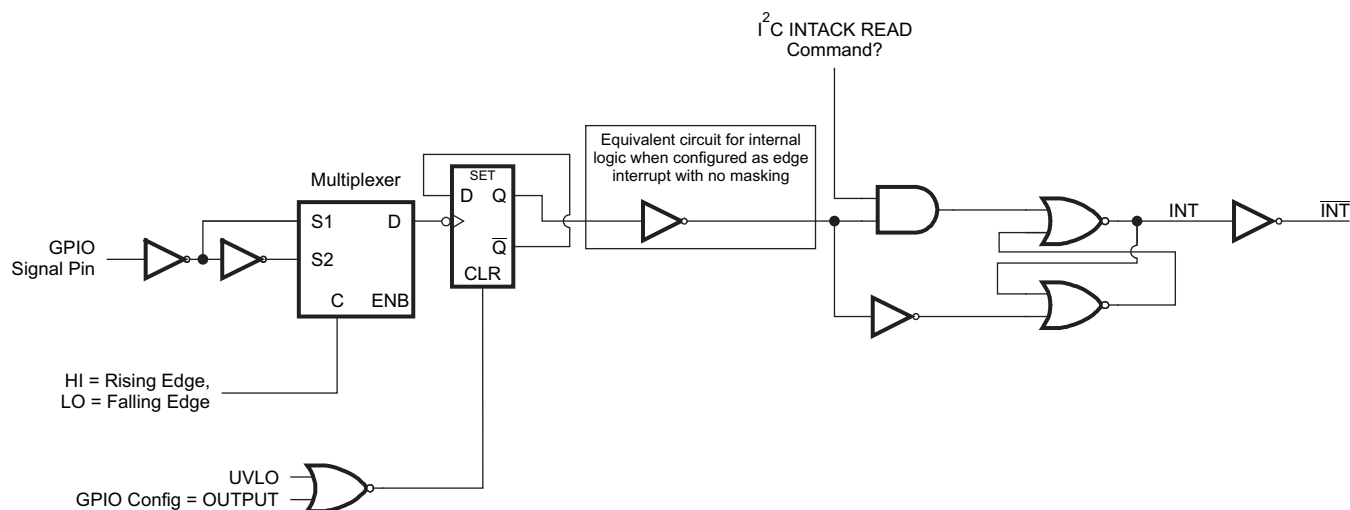

Figure 59. GPIO 1 or GPIO2 Configured as an Interrupt Request Input
See Figure 59 for a description of the logic used for GPIO1 and GPIO2 inputs when configured for edge-triggered interrupt generation. The signal from the GPIO pin input is double-latched before being sent to the interrupt controller logic. The inversion of the Q output from the first flip-flop must be HI to allow the output latch to be cleared when a READ command occurs. On the initial edge of the GPIO signal, the Q output of the flip-flop is set (HI). The $\overline{\text{INT}}$ line is asserted (LO) after the initial selected edge from the GPIO pin. On the next falling (or rising) edge of the GPIO pin, the interrupt can again be cleared (which allows the $\overline{\text{INT}}$ pin to go back high). The $\overline{\text{INT}}$ signal is cleared (set back HI) after an I²C READ operation is performed.